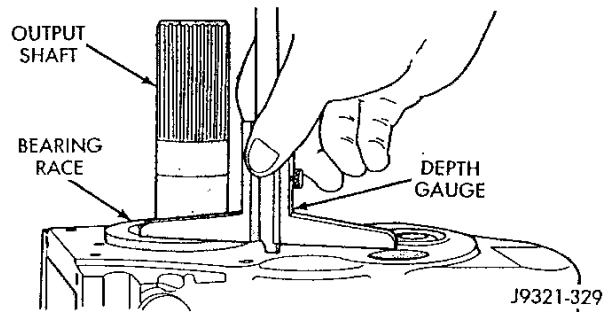

Fig. 65 Measuring Height Of Output Shaft Rear Bearing Race
(1) Place transmission in upright position. Use wood blocks to support transmission on either side of front bearing retainer.
(2) Tap output shaft and countershaft rear bearing races into place. Be sure races are seated on bearings.
(3) Measure distance from top of rear bearing race to case surface with depth gauge (Figs. 65 and 66). Measurements reflect amount of bearing race that extends above rear surface of case. Record these measurements as they will be needed for shim selection.